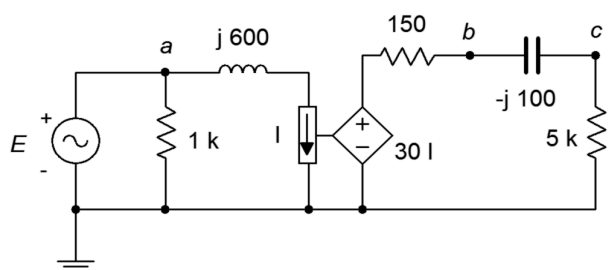

Figure 5.17
33. Determine the current through the 5 k Ω resistor in the circuit of Figure 5.17 if $E = 10\angle 0^\circ$.
34. Determine v_c in the circuit of Figure 5.17 if the source $E = 3\angle 120^\circ$.